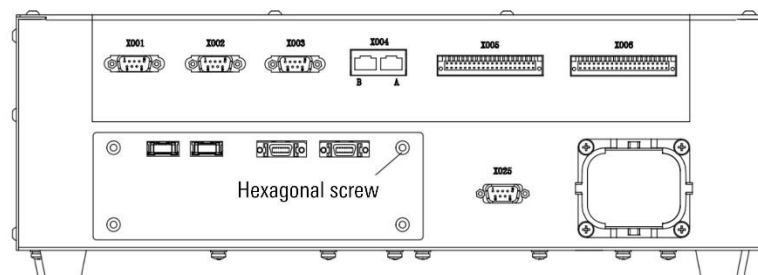

Figure 18-7 ARCCD20-diagram after installing the gusset plate and fixing the sheet metal
Step4. Use 4 hexagon socket screws removed in step 1 to fix the ARCCD20-mounting plate sheet metal to the rear panel, refer to Figure 18-7.